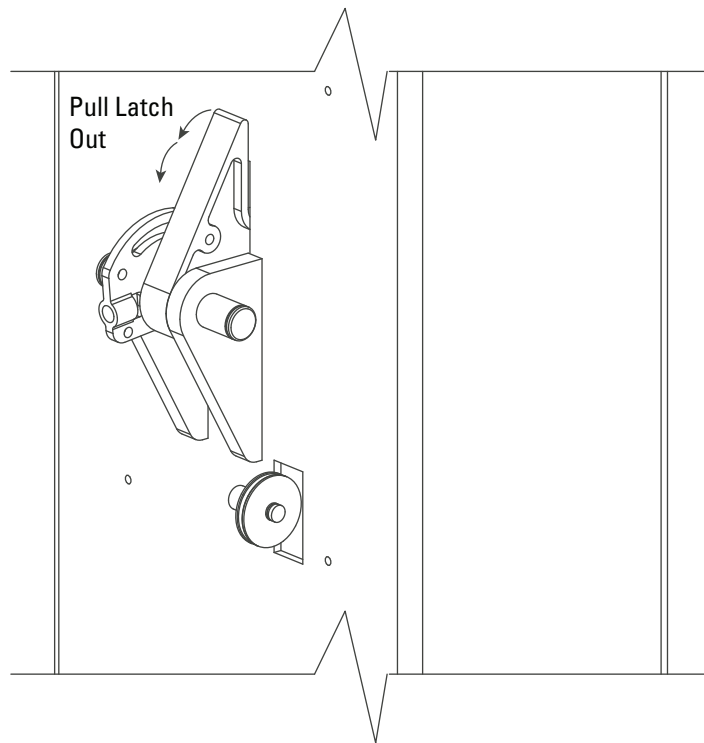

Figure 6
6. **Carriage Placement.** Disengage the latch by pulling out the latch on the column, Figure 6. Slide the carriage to the leg's baseplate. Engage the latch by releasing the latch. Slide the carriage up until the first "click" is heard. Repeat the process for the other carriage.